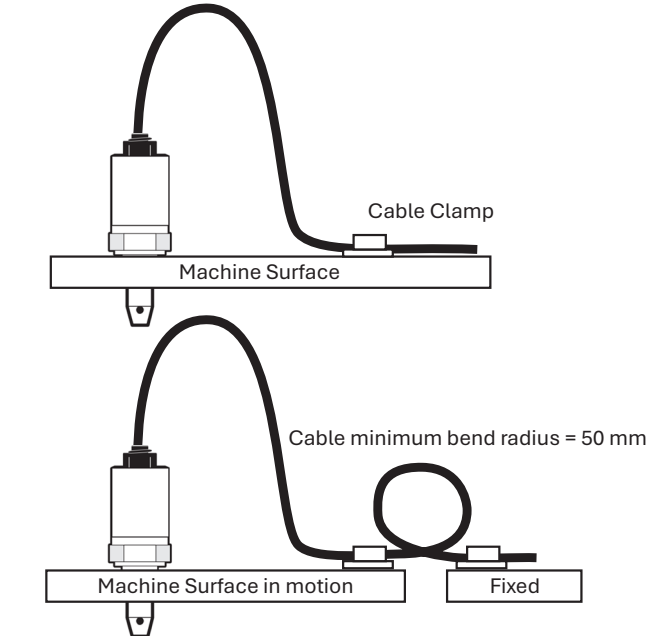

Fig. 7-1 Cable Fitting
- Refer to Fig. 7-1. To prevent vibration having any adverse effects to the cable/ sensor connectors, the cable must either be mounted on the same plane as the sensor, or have a loop fitted to absorb vibration.